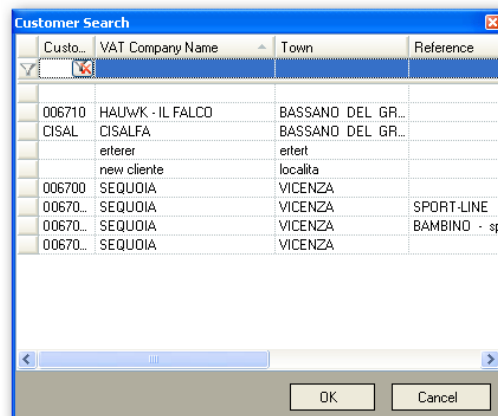

Fig. 11 - Customer search window
- Customer: by clicking on the right-hand button of the field, the customer search window opens (Fig. 11).